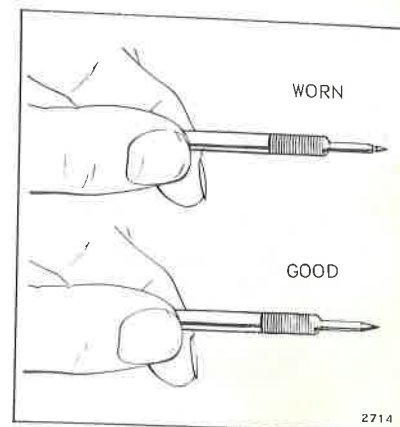

Figure 3-12. Needle Valve Wear
a. Inspect the tapered end of the needle valves for grooves, nicks, or scratches; replace if necessary. See Figure 3-12.